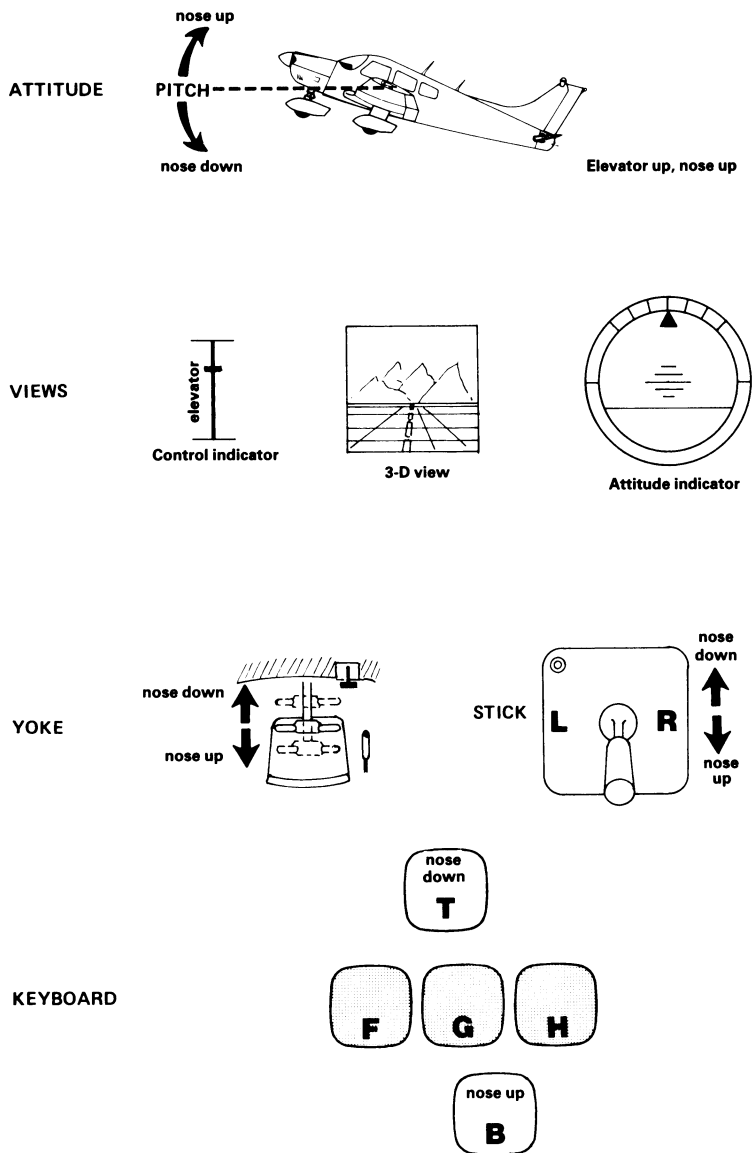

Figure 4. Elevator—Controls and Effects
Figure 4 shows the yoke's elevator control function and effects.
8. Watch the elevator control indicator on the panel (see Fig. 4).